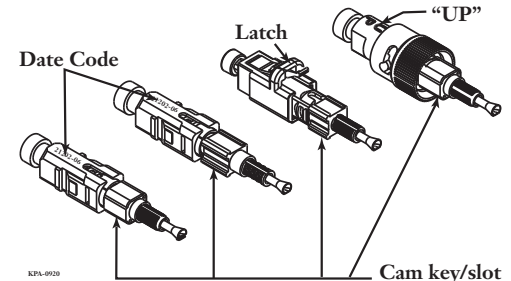
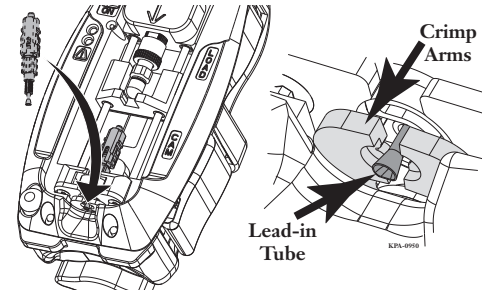

Figure 14 — Cam Position for each Connector Type
Figure 17 — Load Connector
Because the connector cam may rotate slightly during shipment, verify that the connector cam is in the open position (Figure 14). The cam is open when the cam key is 90 degrees from:
Step 2: With the connector oriented up (as shown in Figure 14), load the connector into the tool by inserting it, lead-in tube first, into the Wrench (Figure 17).